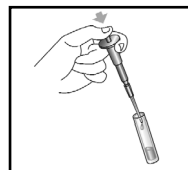

Figure 3
4. Holding the minipet over the reaction tube, depress the plunger to dispense the sample (fig. 3).